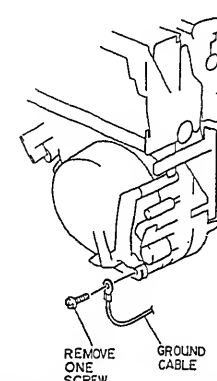

Fig. 2-11
6. Remove one (1) screw holding the ground cable. (See Fig. 2-11)